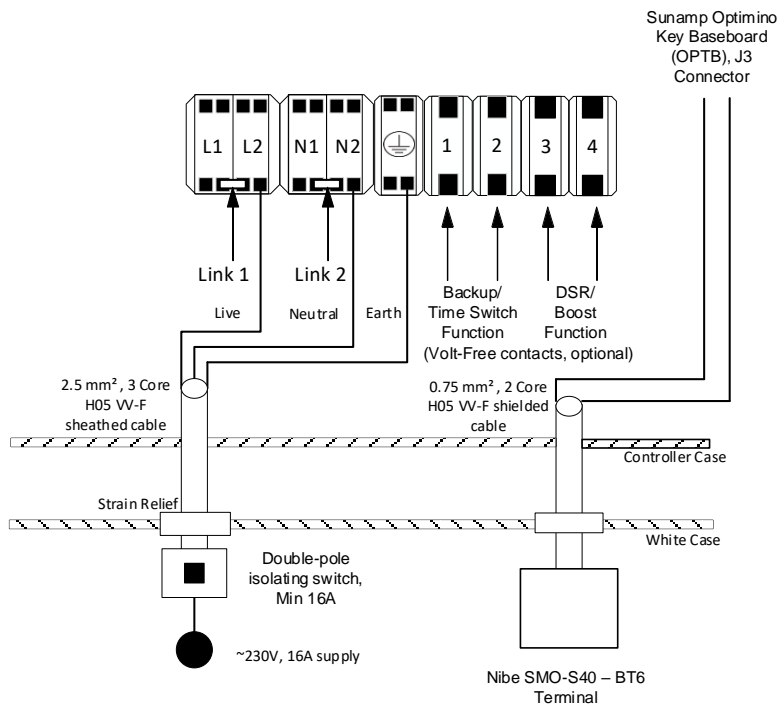

Figure NE.1 - Thermino xPlus with NE01 Optimino key
- Thermino xPlus with the “NE01” & “NE02” Optimino keys (D0084 – Section 6.4.2 for wiring instructions & Figures NE.1 & NE.2 below)
Using a 2-core shielded cable 0.75mm², the cable will act as a hot water heating tank sensor from the Sunamp Optimino Board (OPTB) – terminal J3 into the BT6 terminal at the Nibe SMO-S40 indoor controller (please refer to HP installation manual). Please run the wire into the heat battery appliance via the appliance case cabling grommets and then into the control box housing through the hole available. Secure the cables in terminals J3 on the Optimino Board; please see Figures NE.1 & NE.2 below for reference.